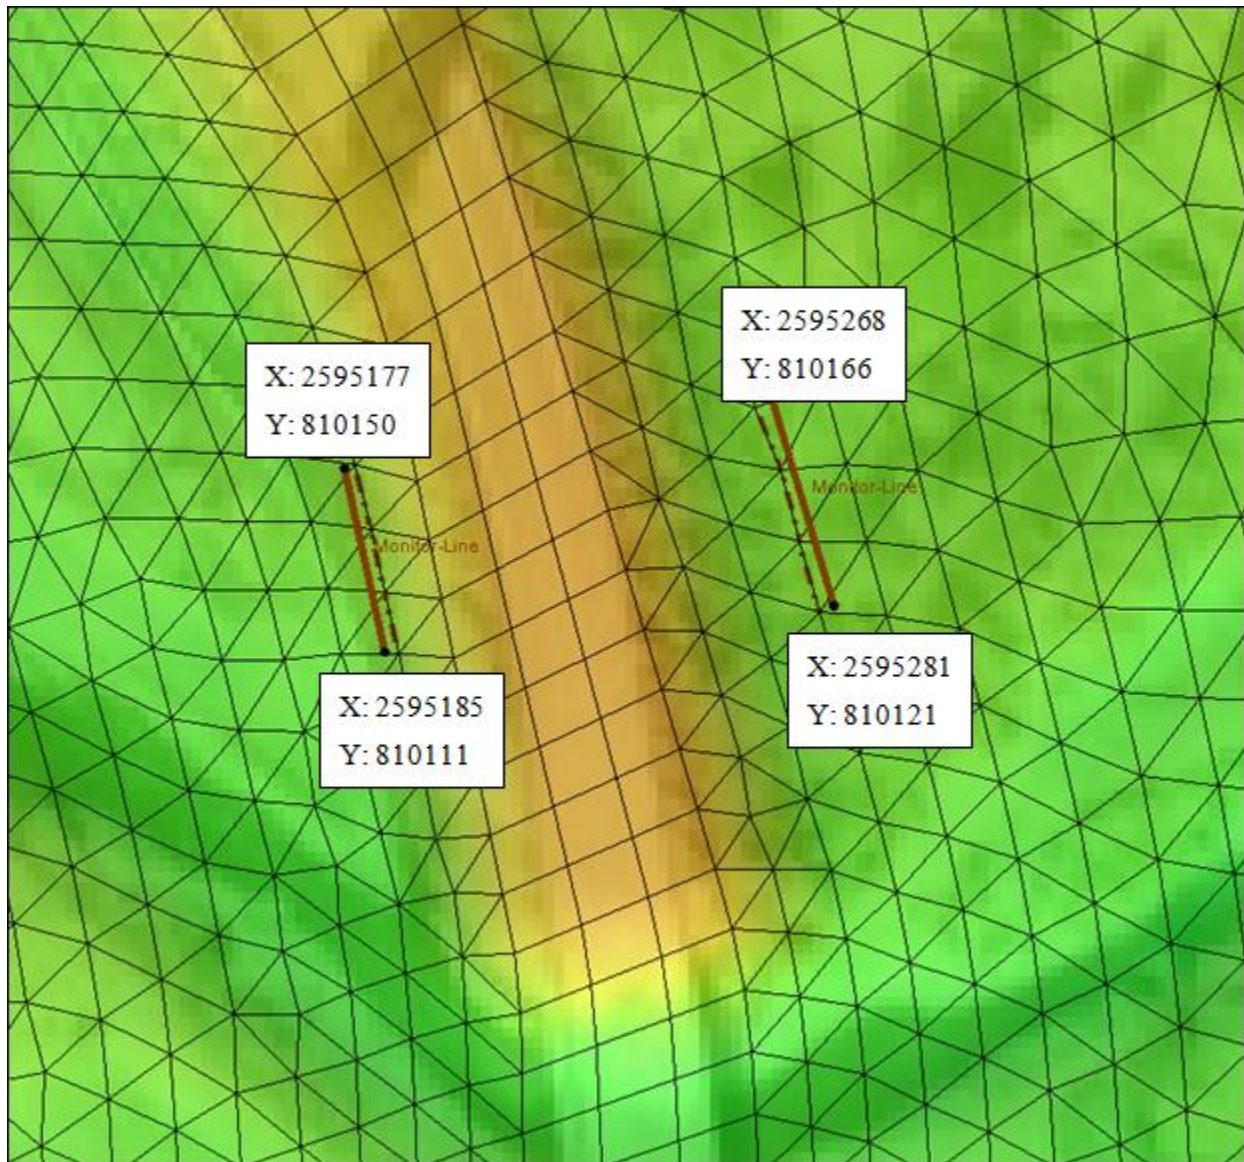

Figure 4 Coordinate Location of Arc End Nodes
7. For consistency with the culvert definition that will be used in section 3.3, change the coordinate locations of each of the four end nodes on the arcs to the coordinates shown in Figure 4. To do this, use the **Select Feature Point**  tool to select a point at the end of an arc and manually enter the X and Y values into the *Edit Window* at the top of the SMS window.